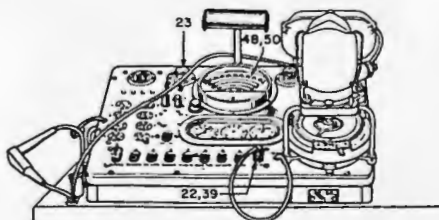

Fig. 6
- 39 Plug meter into M.P.H. socket (Fig. 6).